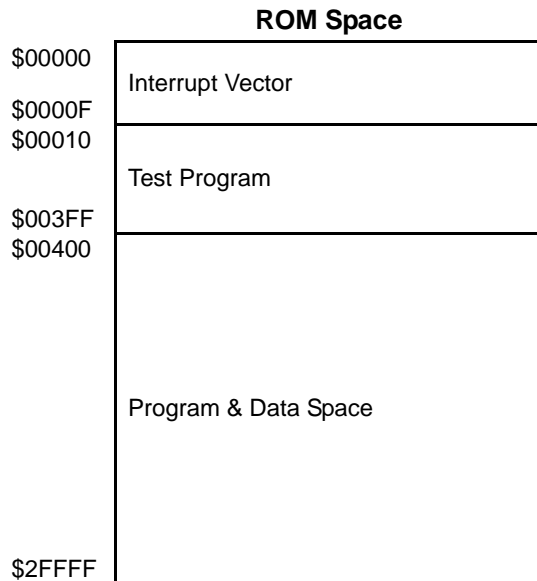

FIGURE 3.1: ROM Map of AM4FCxxxx
The ROM memory could be divided into three portions. The first portion 0x0~0xF is addressed for interrupt in normal mode. The second portion 0x10~0x3FF is reserved for test program. The last portion 0x400~0x2FFFF located in the address range that could be accessed by program counter (PC) and others' pointer simultaneously. Address bits[17:16] is accessed by setting PCH value in SFR\$14 to switch banks. That is, each bank has memory space 64K words. This portion could be used to store program and data. Figure 3.1 shows the ROM map.